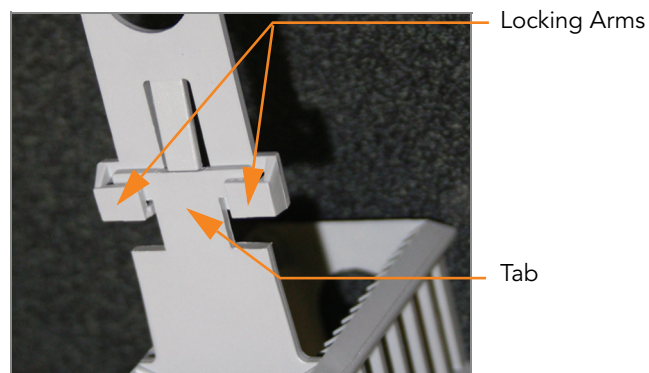

Figure 67 Staining Rack Locking Arms and Tab
5. Submerge the unloaded staining rack into the wash dish with the locking arms and tab facing **towards** you (Figure 67). This orients the staining rack so that you can safely remove the BeadChips.